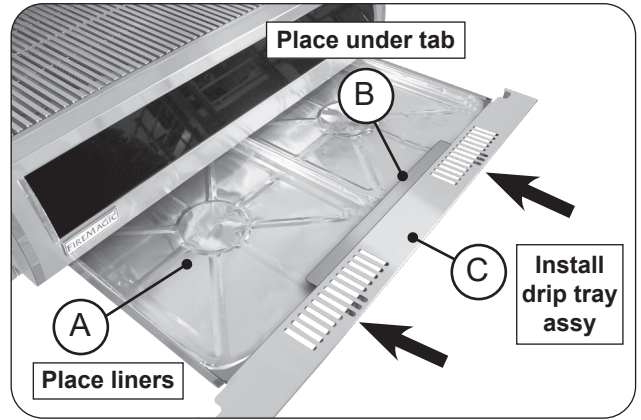

Fig. 27-1 Install drip tray
- Place the liners (Fig. 27-1, A) underneath the tab at the front portion of the drip tray (Fig. 27-1, B)
2. Fully insert the drip tray with liners into the bottom front opening of the electric grill (Fig. 27-1, C).